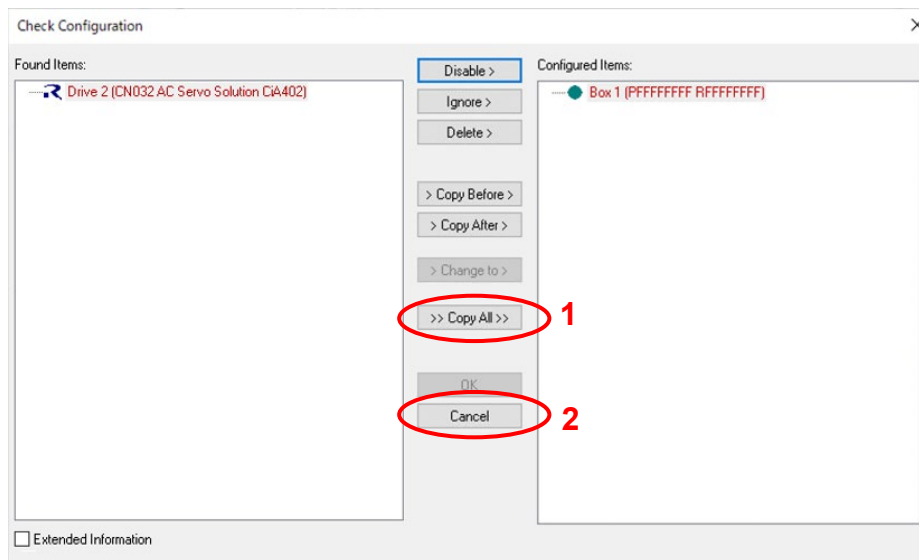

Figure 6-8 Copy the found device into the configuration
Now repeat the device scan shown in Figure 6-8. TwinCAT®3 will now scan once more for devices and it will find the CN032 AC Servo Solution board with the updated description data in EEPROM. The subsequent “Check Configuration” dialog shows you the list of found items. Copy the “CN032 AC Servo Solution CiA402” device with “Copy All” into the list of “Configured Items” (1). When the representation of the devices in the list changes to green, leave the dialog with “OK” (2).